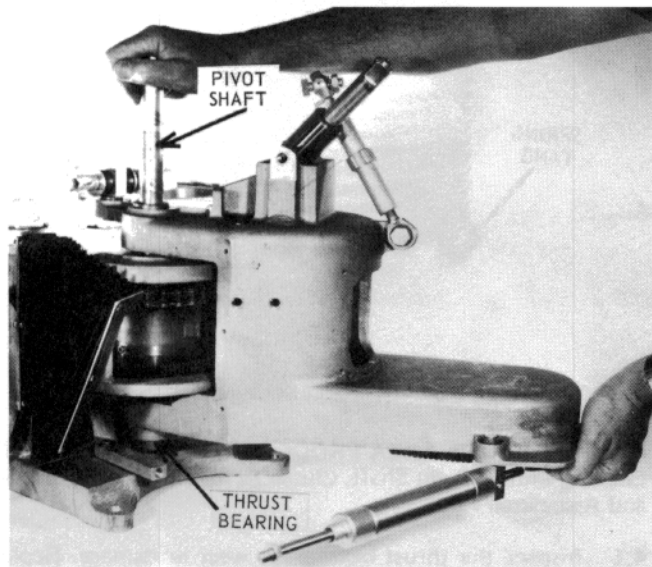

Figure 51 — Pivot Shaft Removal
2.1.11 Pull the pivot shaft up to separate the two castings (see Figure 51). Do not loosen the pivot shaft cam screw at the top of the pivot shaft. It may be necessary to drive the shaft out from the bottom if it cannot be pulled free from the top. When the pivot shaft is withdrawn, do not lose or damage the pivot shaft thrust bearing which supports the mainshaft housing. (see Figure 51 and 52).